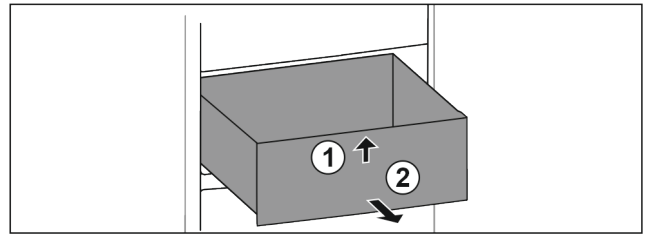

Fig. 16
- ▶ Lift at the front Fig. 16 (1).
- ▶ Remove to the front Fig. 16 (2).